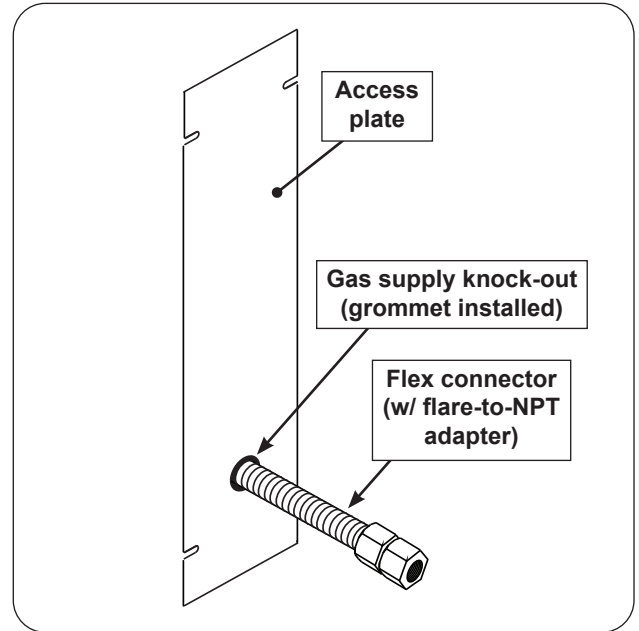

Fig. 24-1 Access plate view & install orientation
2. Remove the plastic grommet (attached to the flex connector) and insert it into the newly created opening. Then route the flex connector through the opening. See Fig. 24-1 and 24-2.